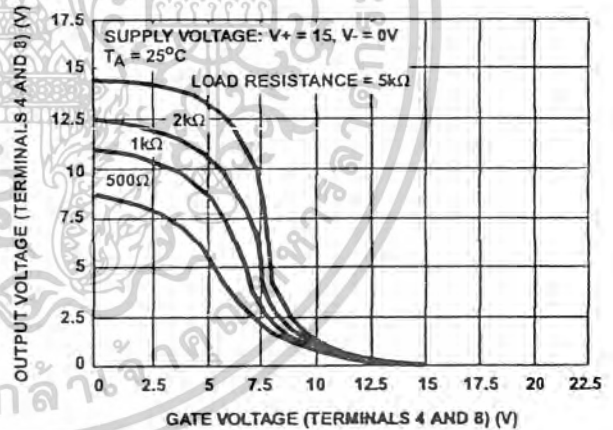
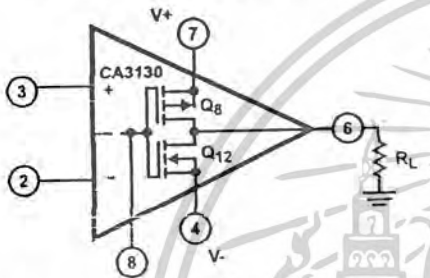

FIGURE 2. VOLTAGE TRANSFER CHARACTERISTICS OF CMOS OUTPUT STAGE
FIGURE 6A. DUAL POWER SUPPLY OPERATION
The output stage consists of a drain-loaded inverting amplifier using CMOS transistors operating in the Class A mode. When operating into very high resistance loads, the output can be swung within millivolts of either supply rail. Because the output stage is a drain-loaded amplifier, its gain is dependent upon the load impedance. The transfer characteristics of the output stage for a load returned to the negative supply rail are shown in Figure 2. Typical op amp loads are readily driven by the output stage. Because large-signal excursions are non-linear, requiring feedback for good waveform reproduction, transient delays may be encountered. As a voltage follower, the amplifier can achieve 0.01% accuracy levels, including the negative supply rail.
Because the CA3130 is very useful in single-supply applications, it is pertinent to review some considerations relating to power-supply current consumption under both single-and dual-supply service. Figures 6A and 6B show the CA3130 connected for both dual-and single-supply operation.
**Single-supply Operation:** Initially, let it be assumed that the value of RL is very high (or disconnected), and that the input-terminal bias (Terminals 2 and 3) is such that the output terminal (No. 6) voltage is at V+/2, i.e., the voltage drops across Q8 and Q12 are of equal magnitude. Figure 20 shows typical quiescent supply-current vs supply-voltage for the CA3130 operated under these conditions. Since the output stage is operating as a Class A amplifier, the supply-current will remain constant under dynamic operating conditions as long as the transistors are operated in the linear portion of their voltage-transfer characteristics (see Figure 2). If either Q8 or Q12 are swung out of their linear regions toward cut-off (a non-linear region), there will be a corresponding reduction in supply-current. In the extreme case, e.g., with Terminal 8 swung down to ground potential (or tied to ground), NMOS transistor Q12 is completely cut off and the supply-current to series-connected transistors Q8, Q12 goes essentially to zero. The two preceding stages in the CA3130, however, continue to draw modest supply-current (see the lower curve in Figure 20) even though the output stage is strobed off. Figure 6A shows a dual-supply arrangement for the output stage that can also be strobed off, assuming RL = ∞ by pulling the potential of Terminal 8 down to that of Terminal 4.
Let it now be assumed that a load-resistance of nominal value (e.g., 2kΩ) is connected between Terminal 6 and ground in the circuit of Figure 6B. Let it be assumed again that the input-terminal bias (Terminals 2 and 3) is such that the output terminal (No. 6) voltage is at V+/2. Since PMOS transistor Q8 must now supply quiescent current to both RL and transistor Q12, it should be apparent that under these conditions the supply-current must increase as an inverse function of the RL magnitude. Figure 22 shows the voltage-drop across PMOS transistor Q8 as a function of load current at several supply voltages. Figure 2 shows the voltage-transfer characteristics of the output stage for several values of load resistance.